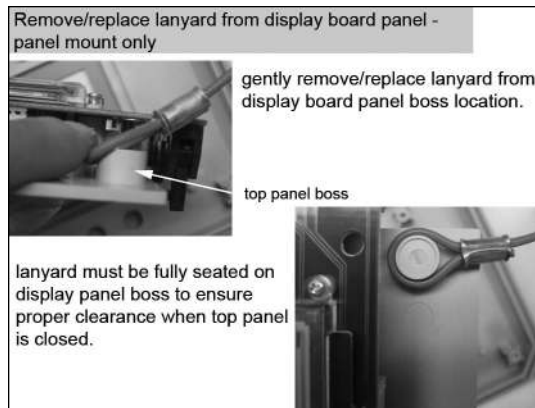

Figure 3.7
4. Carefully lift out the display board and remove the lanyard from the display board panel - figure 3.7. Set display board panel and front panel aside.
10. Reattach lanyard by placing lanyard at proper location of display board panel. Make sure lanyard is fully seated on display panel boss to ensure proper clearance when front panel is closed - figure 3.7.